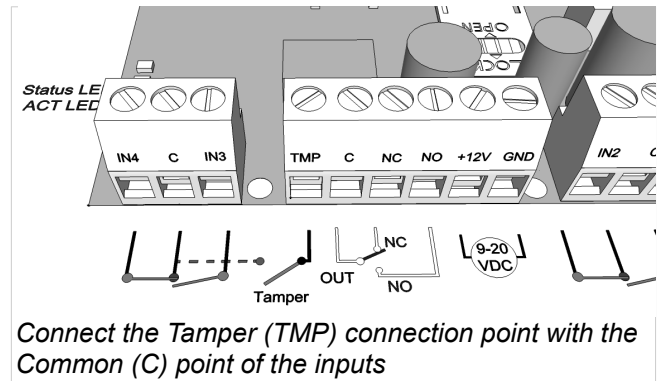

**Figure 6: Exp Relay and Exp Relay 3**
- You can find more information on **SMS commands** on **page 20**.Figure 6: EXP Relay and EXP Relay3